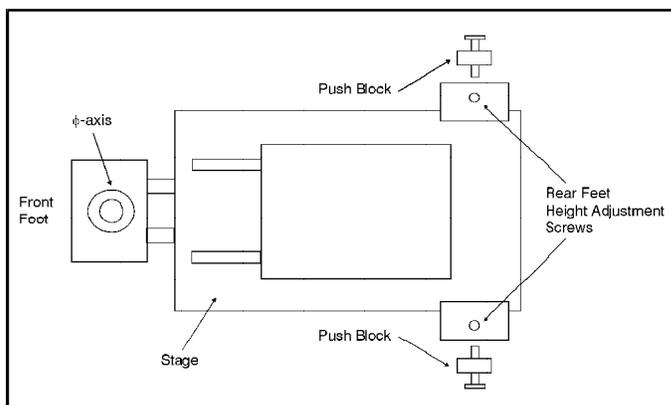

Figure 2-6. Stage height adjustment.
- 25) The height and tilt adjustments are made by turning the two feet at the back of the detector and the height adjustment nut in front, Figures 2-6 and 2-7. Both back feet must be adjusted equally. One complete revolution for all three feet is equal to approximately 10 pixels.